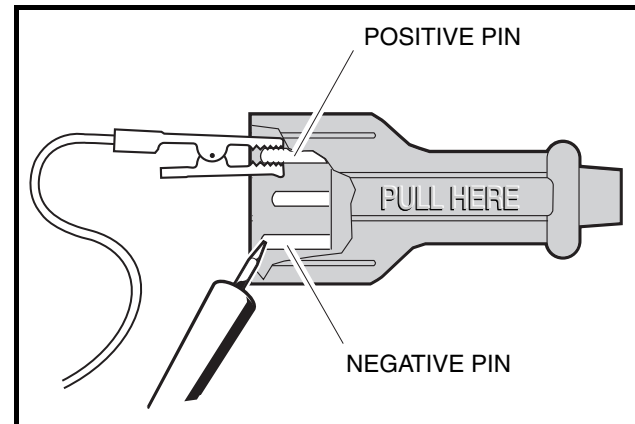

Figure 3-21 DC Plug Test – Probes Reversed
3. Reverse the test probes and check the DC plug again (**Figure 3-21, Page 3-22**). The circuit should show continuity in only one direction.